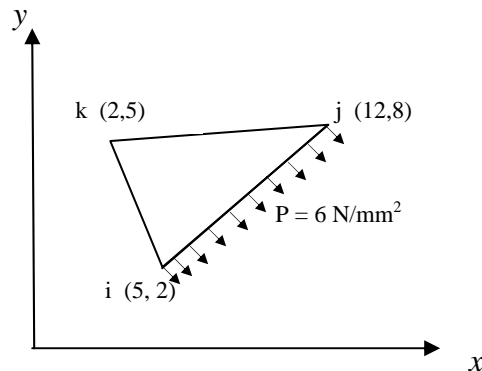

Fig. 2
- b) Formulate the finite element equations for constant strain triangle element shown in fig.2. using plane stress assumption. [6+10]